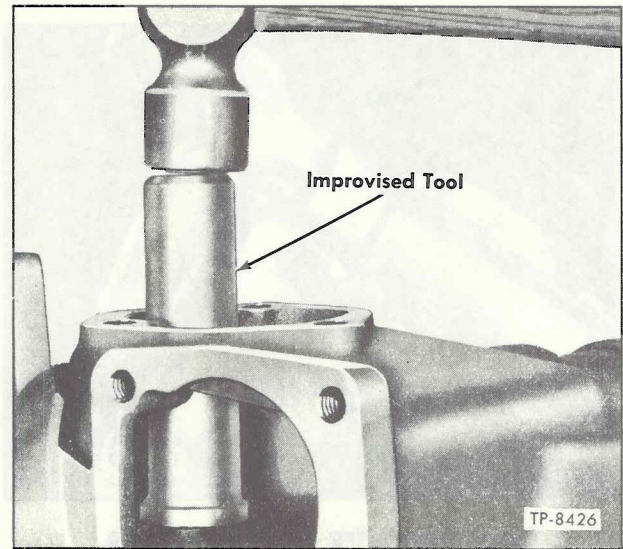

Figure 15—Removing Shaft Bushing from Housing
1. Drive bushing from housing in manner shown in figure 15. Improvised tool can be made if desired.